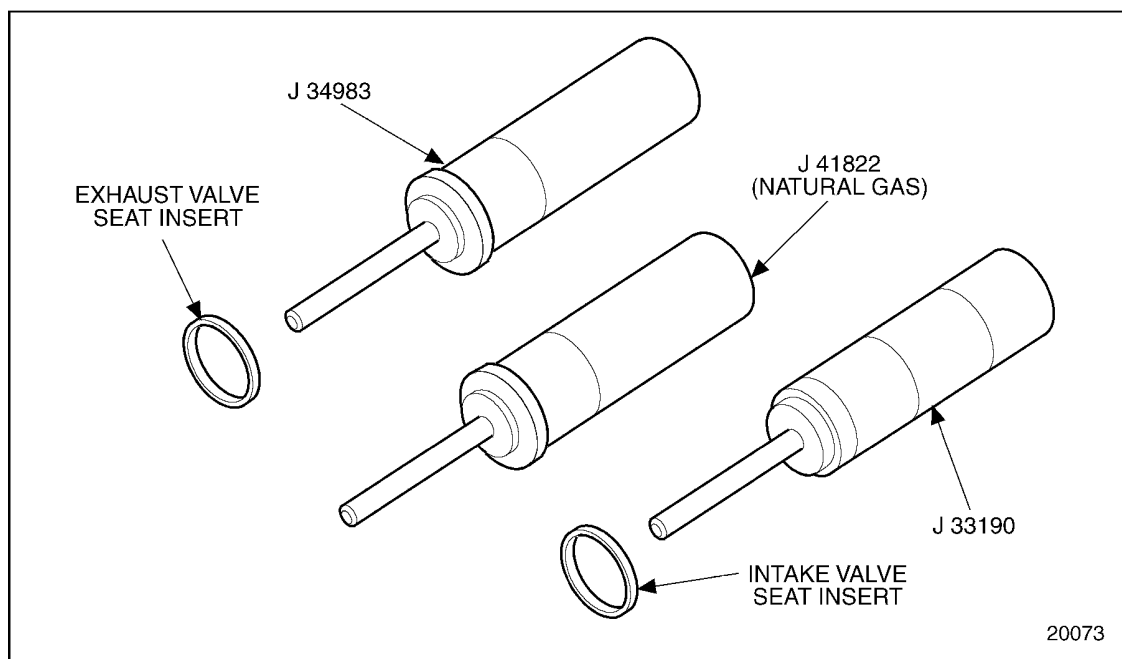

Figure 1-78 Valve Seat Insert Installation Tools
2. Use valve seat insert installers, J 33190 (intake), and J 34983 (exhaust), to install new inserts. See Figure 1-78.